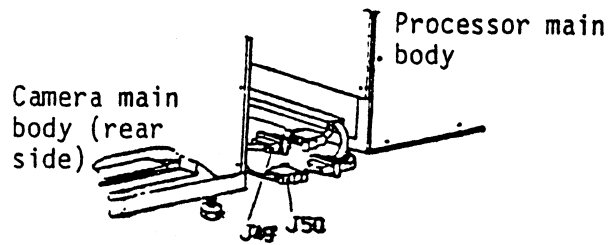

Fig. 5
- (18) Connect the camera connector J49 (rear side) and the processor connector J50 (frame side corner). (Fig. 5)